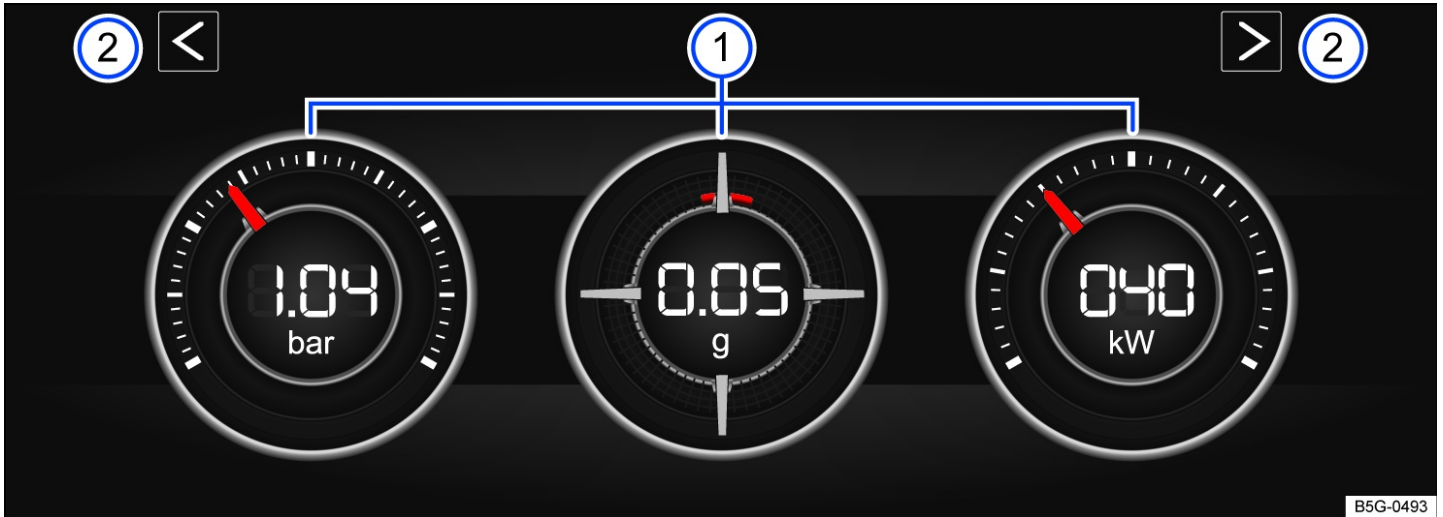

Fig. 16 On the Infotainment system screen: performance monitor.
If you want to switch between the performance monitor and the lap timer, tap one of the left or right arrow buttons above the instruments fig. 16 ②.
The display can show a maximum of three instruments at the same time. Every instrument can be selected for any display area fig. 16 ① (left, center, right).
- **Boost pressure indicator:** the boost pressure indicator fig. 16 ① (left) displays the boost pressure between the turbocharger and the engine in bar. The farther to the right that the needle on the scale is, the more engine power is being used.
- **Accelerometer (g-meter):** the accelerometer (g-meter) fig. 16 ① (center) displays the acceleration value in the center area in g. The red marking in the tab area shows the intensity of the acceleration and the direction of the force. The force in effect is contrary to the physical laws. For example, if you drive to the left, the red marking will move in the right area of the instrument and vice versa. When accelerating, the red marking will move downward. When braking, the red marking will move upward. The intensity of acceleration is indicated by the position of the red marking from the inside to the outside. If you accelerate faster, the red marking will disappear from the center area.
- **Power gauge:** the power gauge fig. 16  (right) shows the engine power that is being currently used as a digital value displayed on the surrounding scale in kW.